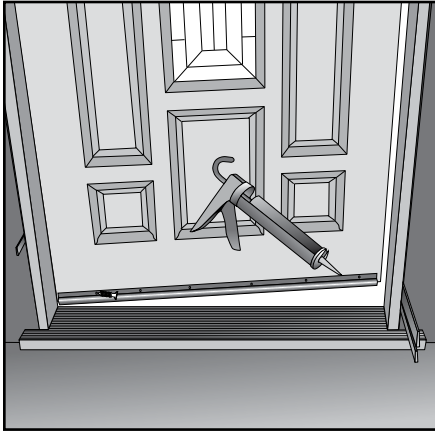

Fig. 33
- B. Install the door sweep onto the bottom of the door. Attach using 1/4" screws on face of door sweep. Run a bead of caulk on the top exterior outer edge to prevent water from entering the sweep (**Fig. 33**).